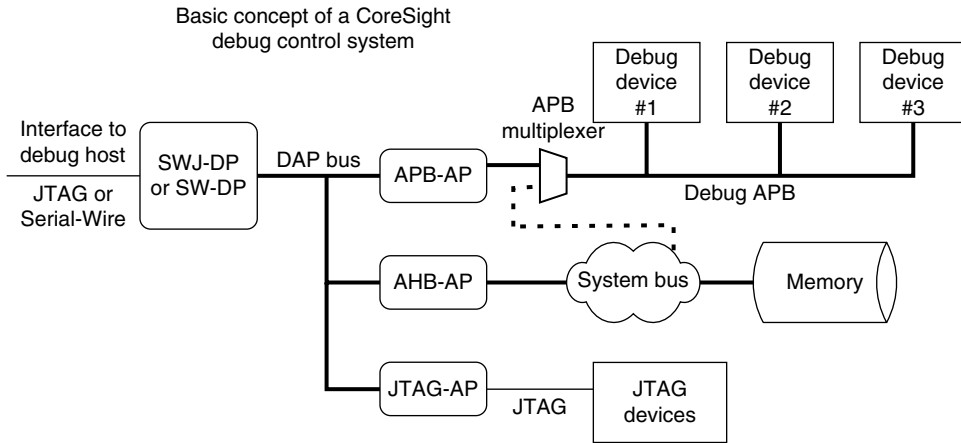

FIGURE 15.2
- The debug components are part of the system memory map, whereas in standard CoreSight systems, a separate bus (with a separate memory map) is used for controlling debug components. For example, the conceptual system connection in a CoreSight system can be like the one shown in Figure 15.2.